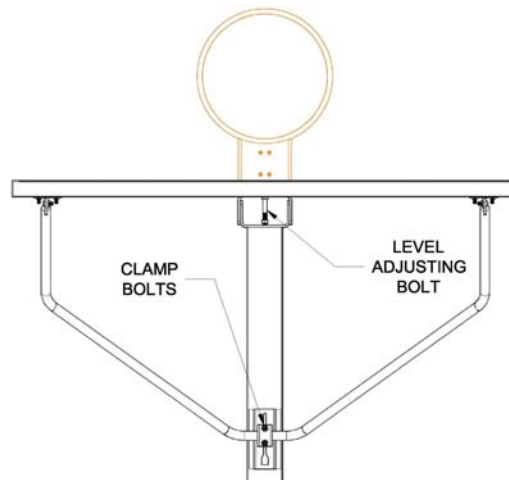

Figure 11
31. To level the backboard in the vertical plane, loosen the two carriage bolts at the board brace clamp on top of the boom. Refer to Figure 11. Using a 3/4" wrench, adjust the leveling bolt in the board mounting bracket until the backboard is plumb. Tighten the locking nuts on the leveling bolt. Tighten the two carriage bolts at the brace clamp and the two carriage bolts at each corner bracket securely.